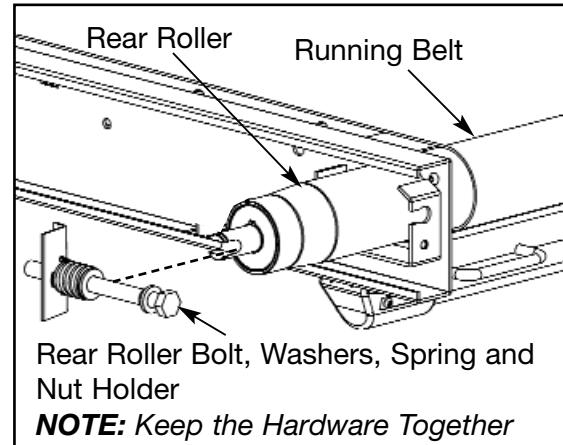

Figure 6
A. Using a 3/4" open end or socket wrench, loosen the two rear roller bolts (one roller bolt on each side). **NOTE:** Loosen each bolt evenly, making sure not to loosen either bolt too many turns before moving to the other bolt. See Figure 6.
B. While holding the rear roller, remove the hardware from each side. **NOTE:** Pivot the bolt, washers, spring and nut holder out together. See Figure 6.
C. Lift one side of the rear roller and slide the roller out of the running belt. See Figure 6.
A. Slide the rear roller into the running belt. See Figure 6.